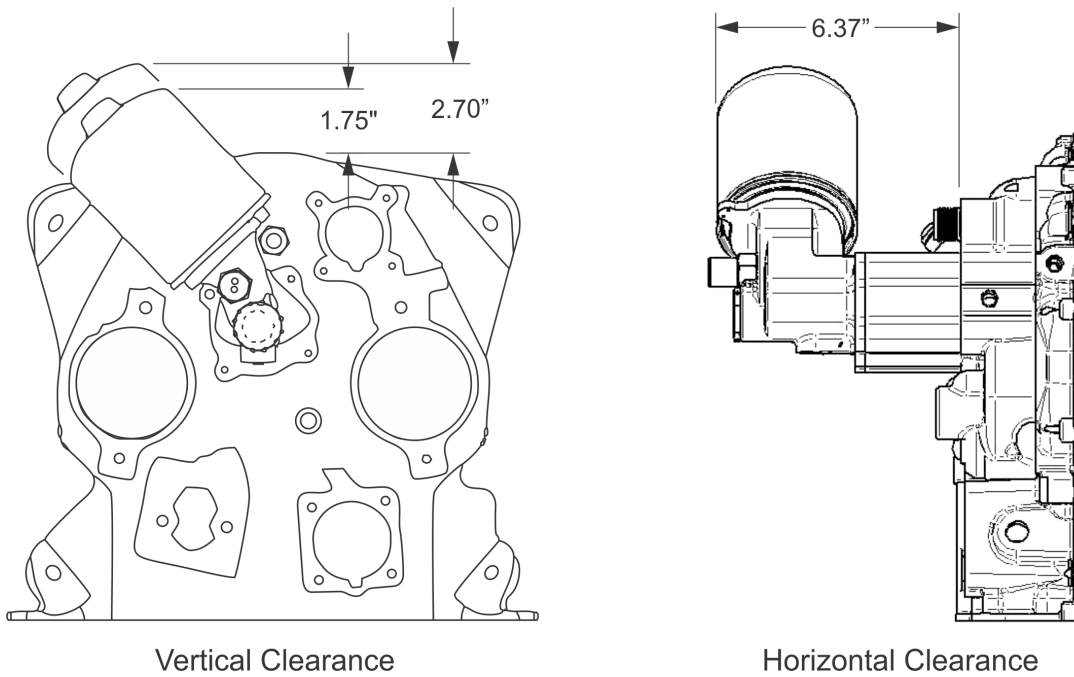

Figure 3. Angled Oil Filter Clearance Requirements
- a. Maintain minimum 1/2-inch clearance between the firewall and any other structure on the aircraft or engine. If the assembly does not have sufficient clearance (reference Figure 3), contact Continental Motors customer service for assistance in ordering the correct kit.